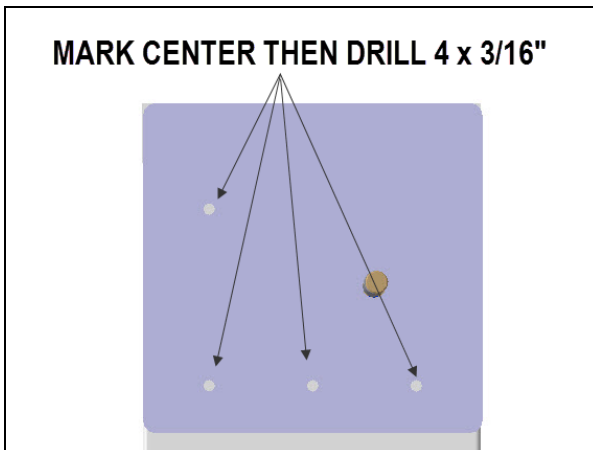

Fig.24
11. With the plate correctly positioned on the condenser top, mark the center of each four (4) rivet holes in the plate (Fig.24).